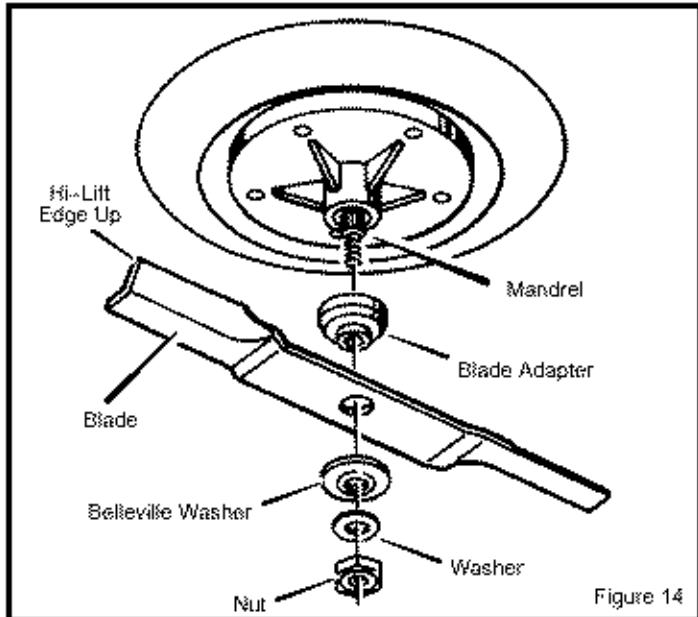

Figure 14
3. Remove the nut that holds the blade (Figure 14).
6. Mount the **blade** and **blade adapter** on the **mandrel** (Figure 14).